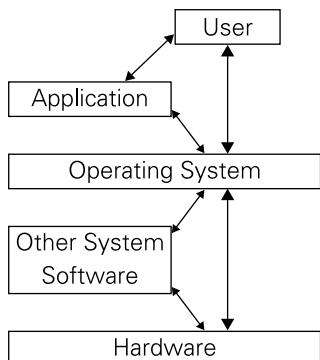

FIGURE 8-1: A basic computer system
We can expand on this definition by saying that the operating system (OS) consists of software that controls the use of computer hardware and software resources, enables user interaction via applications (programs), or gives direct access to various functions outside of applications, such as copying or deleting files, updating the OS itself, and so forth. We understand the OS hides way out of sight but it makes everything the computer does possible. Figure 8-1 shows a basic computer system.
Distilling an OS to its simplest form, we find four “operating” layers (refer to Figure 8-1). For example:
3. In the layer below the application, the OS instructs the hardware to write the file and relays the result back to the application, which, for example, informs the user of a successful save. Users also may bypass the application level for direct instructions to the OS. There is a sublayer (labelled as Other System Software in Figure 8-1) that has software such as drivers, which assist the OS.